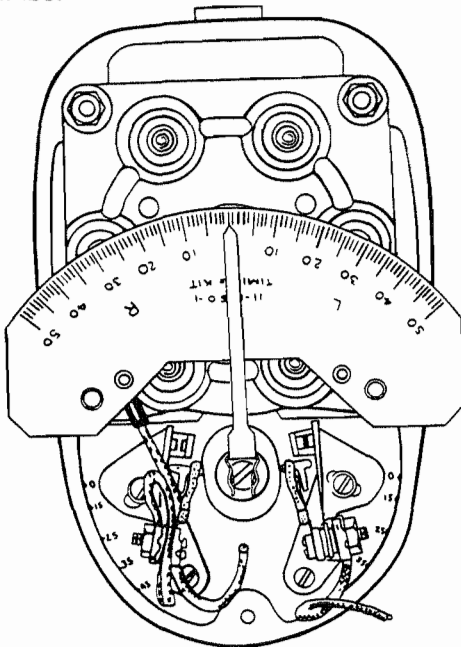

Figure 907. 11-8150-1 Timing Kit Installed on Magneto
- D. Assemble two studs (16) in lower distributor block retention holes of housing (72). (Refer to Figure 907). Install the 11-8693 Timing Plate Assembly and the 11-8149 Pointer Assembly of the 11-8150-1 Timing Kit to breaker compartment of magneto. See Figure 910. Align pointer assembly with 0° mark on timing plate. Loosen adjusting knob of 11-8465 Rotor Holding Tool and turn rotating magnet in normal direction of rotation until pointer indexes with respective E gap mark ( $15^\circ \pm 2^\circ$  on 4 and 6 cylinder or  $12^\circ \pm 1^\circ$  on 8 cylinder magnetos). Tighten adjusting knob of 11-8465 Tool and remove the 11-8149 Pointer Assembly from magneto. Using the 11-9110-1 Timing Light, adjust main contact points to just open by rotating cam. This adjustment shall be made by rotating cam in opposite direction of normal rotating magnet rotation a few degrees beyond point where contacts close. Then rotate cam in normal direction of rotating magnet rotation until contacts just open. While holding cam in this exact position, push cam on magnet shaft as far as possible with fingers. Extreme care must be exercised in this operation. If cam adjustment is changed in the slightest degree, the timing of the magneto will be thrown off. Do not drive cam on shaft with a mallet or other instrument, to do so can harm bearings. Tighten screw (31), thereby drawing cam down evenly and tightly. Torque screw to 21 to 25 in.-lbs. Loosen the 11-8465 Rotor Holding Tool adjusting knob and return rotating magnet to neutral position. Re-install the 11-8149 Pointer Assembly over 0° mark on timing plate. Rotate magnet shaft in normal direction of rotation and check for opening of main contact points at E gap setting ( $15^\circ \pm 2^\circ$  on 4 and 6 cylinder or  $12^\circ \pm 1^\circ$  on 8 cylinder magnetos) using 11-9110-1 Timing light (light should go out at  $15^\circ \pm 2^\circ$  or  $12^\circ \pm 1^\circ$ ).